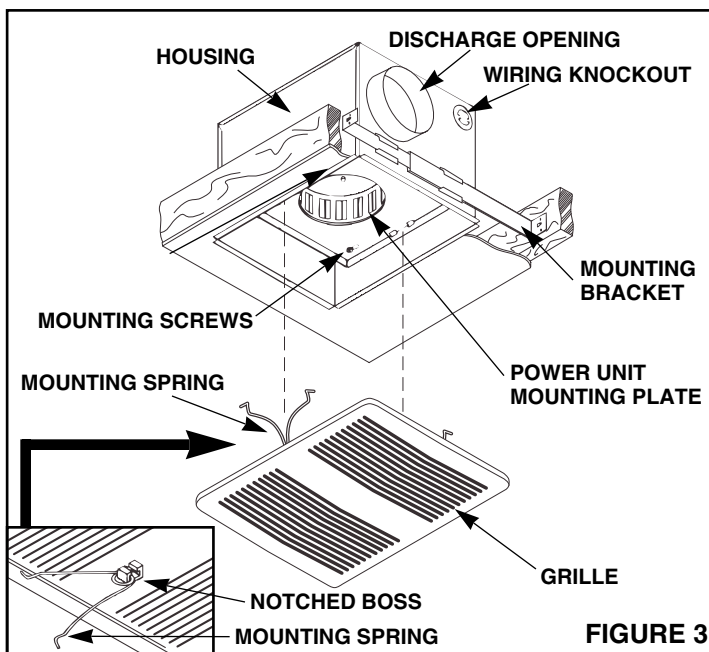

FIGURE 3
1. **Refer to Figure 3.** Insert mounting brackets at each end of housing.
4. **Refer to Figure 3.** Securely tighten screws.
1. **Refer to Figure 3.** Snap grille mounting springs' center loop into notched bosses on the back of grille.